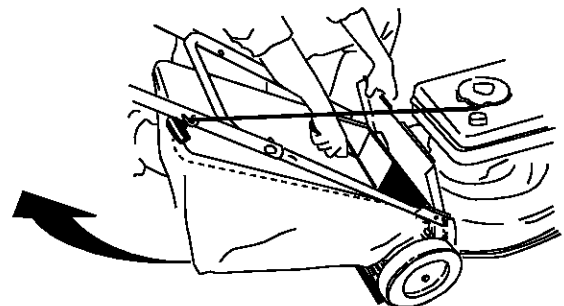

Figure 14
- Lift discharge door and pull grass bag up and away from the mower to dispose of the grass clippings See Figure 14.